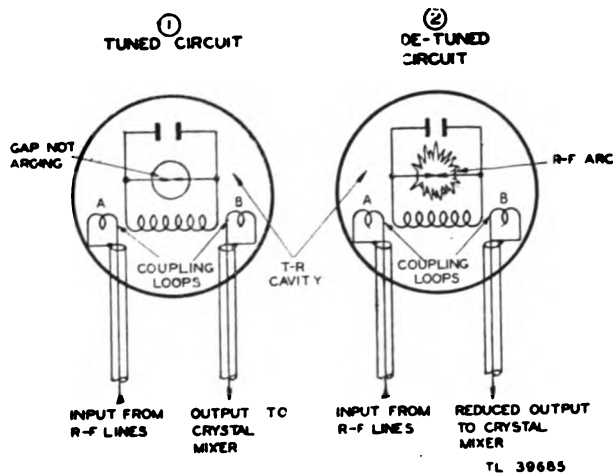

Figure 64. T-R box, simplified tuned circuit equivalent.
*c. OPERATION OF T-R BOX.* The operation of the T-R box can be explained simply by comparing it with its equivalent electrical circuit. As shown in figure 64, a T-R box behaves like a tuned circuit consisting of an inductance and a capacitance. If an alternating voltage is applied to the circuit, strong electrical oscillations are built up in the circuit, provided the applied frequency equals the resonant frequency of the tuned circuit. This condition is called resonance. Simple resonant circuits are commonly used as highly efficient coupling circuits in radio receivers. An important point to note is that the effectiveness of the
(1) *Action during reception.* Figure 64 ① illustrates the action of the T-R box during the reception of echo signals. To any r-f energy entering it through input coupling loop A, the cavity of the T-R box resembles a tuned circuit with the gap between the cones inside the cavity represented by the spark-gap shown in the drawing. The cavity has a definite resonant frequency, which can be changed by varying the settings of the tuning plugs in the side of the cavity. If the cavity is tuned by means of these plugs to resonate at the frequency of the incoming echo signal, the echo energy entering the cavity through input coupling loop A will build up strongly inside the cavity, and will be inductively picked up by output coupling B and sent on to the signal crystal mixer.
(4) *Action during transmission.* During the transmitting part of the cycle, however, the operation of the T-R box is entirely different; this is illustrated in figure 64 ②. As the outgoing pulse reaches the tee-junction, part of its energy goes up the branch line towards the receiver and reaches the T-R box. This energy is more than sufficient to break down the gap in the T-R tube quickly and form an arc across the gap which effectively short circuits the voltage and prevents damage to the signal crystal mixer and the receiver. The arc continues for the entire duration of the transmitted pulse.